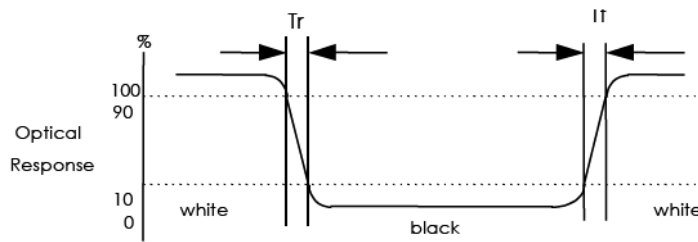

FIG. 2 Measuring method for Contrast ratio, surface luminance, Luminance uniformity , CIE (x, y) chromaticity
| Contrast ratio | Cr | | 250 | 400 | - | --- | FIG 2. | 1 | |
| Luminance uniformity | δ WHITE | | 70 | 80 | - | % | FIG 2. | 3 | |
| Surface Luminance | Lv | | 210 | 270 | - | cd/m ² | FIG 2. | 2 | |
| CIE (x, y) chromaticity | Red | $\theta=0^\circ$ $\varnothing=0^\circ$ $Ta=25^\circ C$ | x | 0.52 | 0.57 | 0.62 | FIG 2. | 5 | |
Note 1. Contrast Ratio(CR) is defined mathematically as For more information see FIG 2.
Note 2. Surface luminance is the LCD surface from the surface with all pixels displaying white. For more information see FIG 2.
Note 3. The uniformity in surface luminance , δ WHITE is determined by measuring luminance at each test position 1 through 5, and then dividing the maximum luminance of 5 points luminance by minimum luminance of 5 points luminance. For more information see FIG 2.